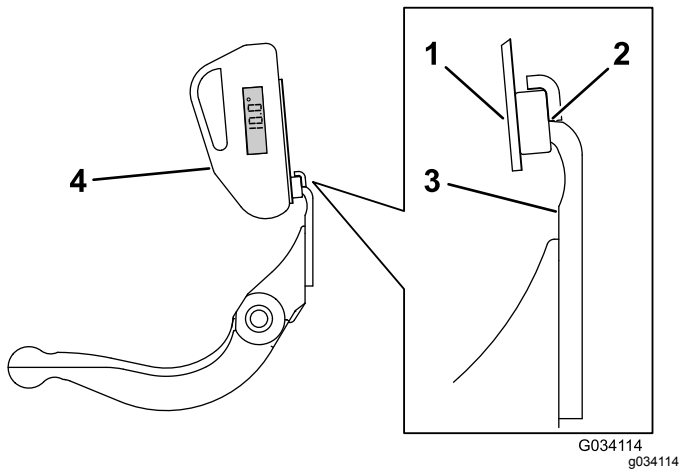

Figure 28
3. Place the angle-indicator mount on the edge of the bedknife so that the edge of the magnet is mated with the edge of the bedknife (Figure 28).
4. Place the angle indicator on the mount as shown in Figure 28.